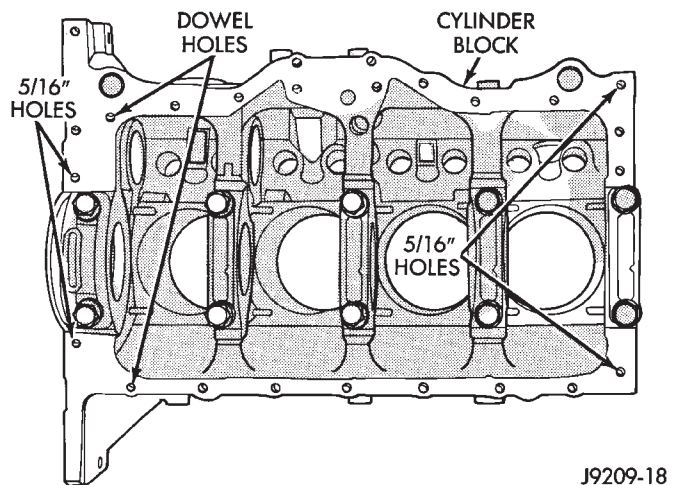
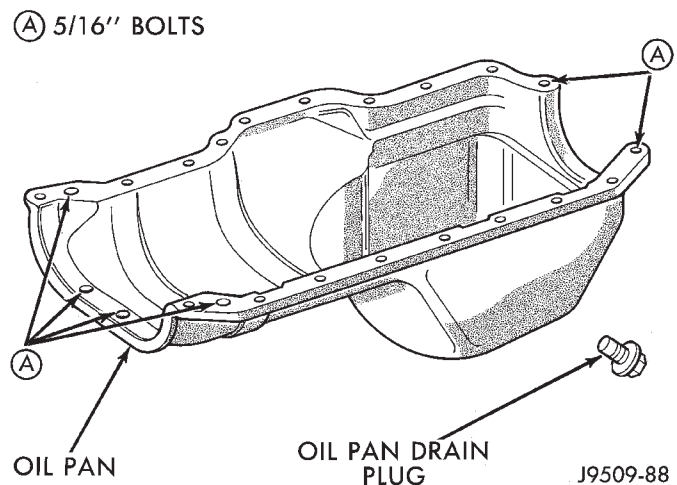

Fig. 2 Position of Dowels in Cylinder Block
Fig. 3 Position of 5/16 inch Oil Pan Bolts
- (2) Install two dowels in the timing case cover. Install the other two dowels in the cylinder block (Fig. 2).
- (3) Slide the one-piece gasket over the dowels and onto the block and timing case cover.
- (4) Position the oil pan over the dowels and onto the gasket.
- (5) Install the 1/4 inch oil pan bolts. Tighten these bolts to 14 N·m (120 in. lbs.) torque. Install the 5/16 inch oil pan bolts (Fig. 3). Tighten these bolts to 18 N·m (156 in. lbs.) torque.
- (6) Remove the dowels. Install the remaining 1/4 inch oil pan bolts. Tighten these bolts to 14 N·m (120 in. lbs.) torque.
- (7) Lower the engine until it is properly located on the engine mounts.
- (8) Install the through bolts and tighten the nuts.
- (9) Lower the jack stand and remove the piece of wood.
- (10) Install the flywheel and torque converter housing access cover.
- (11) Install the engine starter motor.
- (12) Connect the exhaust pipe to the hanger and to the engine exhaust manifold.
- (13) Install the oil pan drain plug (Fig. 3). Tighten the plug to 34 N·m (25 ft. lbs.) torque.
- (14) Lower the vehicle.
- (15) Connect negative cable to battery.
- (16) Fill the oil pan with engine oil to the specified level.